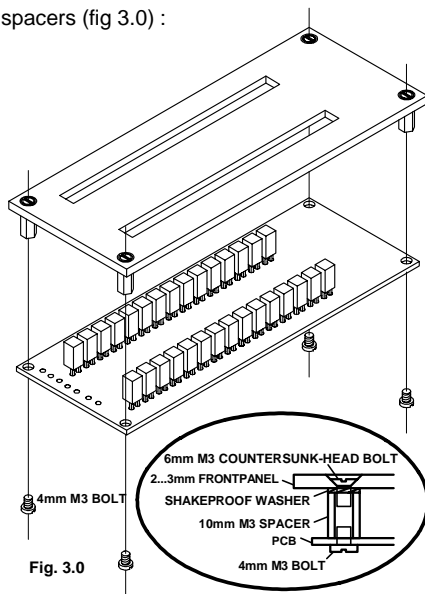

Fig. 3.0
(C) Mount the PCB onto the spacers (fig 3.0) :